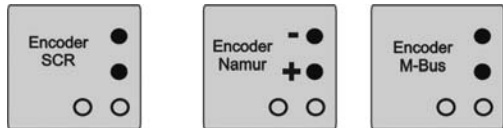

Figure 9: Encoder sticker
- If you wish to synchronise the encoder with the meter reading of your operating meter after installation or conversion, you will require the Instructions “Encoder synchronisation” and a special tool. In such cases, we recommend that you contact our **Elster-Instromet Customer Service (Tel. +49 (0)6134-605-0 / -346)**.
- Use only a screened cable (DIN EN 60079-14) to connect the encoder and ensure that the pin assignment is correct (see sticker next to the cover of the terminal box), Figure 9.